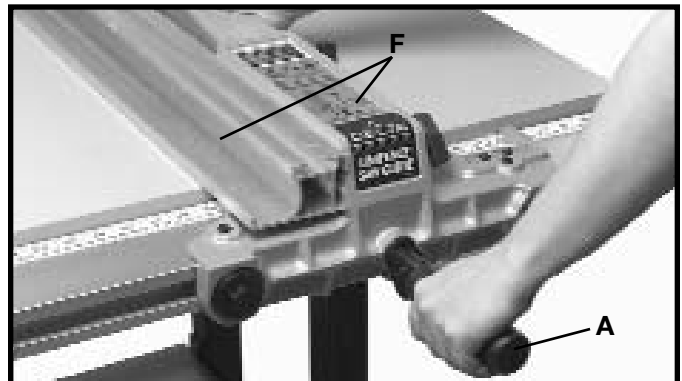

Fig. 43
6. To remove the fence and fence body assembly (F) Fig. 43, from the guide rail, lift up on fence clamping lever (A) and turn lever (A) to the left indent position. The fence assembly (F) can then be pulled straight off the guide rail and removed.